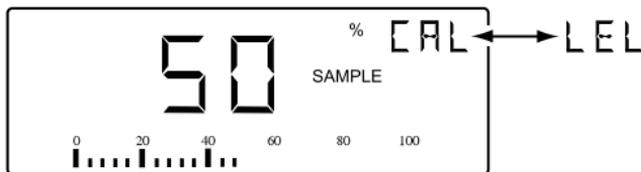

Fig. B-7 50% LEL Display
9. The instrument display will now return to CAL mode display as shown in Figure B-7.